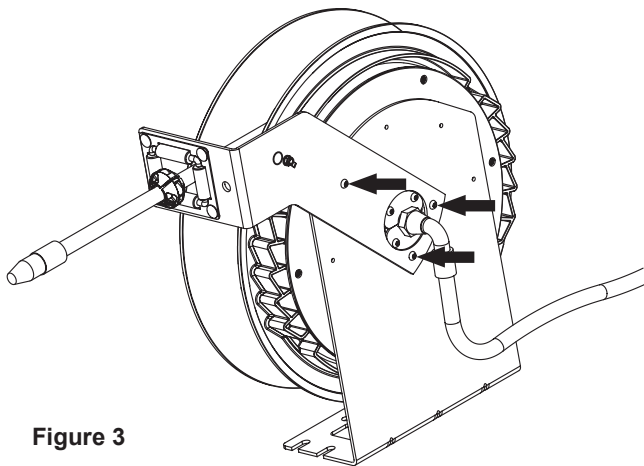

Figure 3
3. To move the hose guide arm and the hose outlet mouth, remove screws (Figure 3), place arm and outlet in correct position and replace screws again.